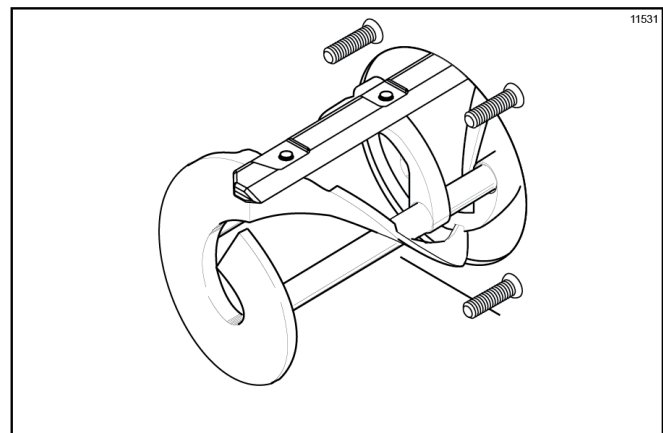

Figure 6-17
5. Holding the rear blade on the beater, slide it into the freezing cylinder halfway. Install the front scraper blade over the front holding pin. (See Figure 6-17.)